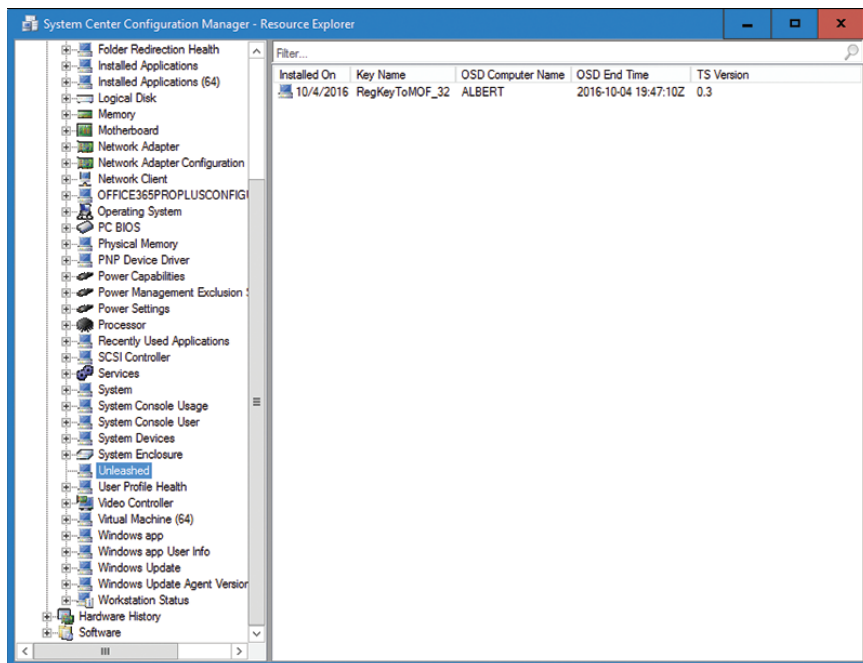

FIGURE E.8 Resource Explorer.
4. Since inventory has occurred, verify that the data is available in the Resource Explorer, initiated from the ConfigMgr console on the client's primary site server. Open the console and navigate to **Assets and Compliance**, select the collection you just targeted with your custom client settings, and select the device where you just ran the hardware inventory. Now use **Start -> Resource Explorer** to open the Resource Explorer for that device. As you can see in Figure E.8, **Unleashed** has been added to the Resource Explorer.